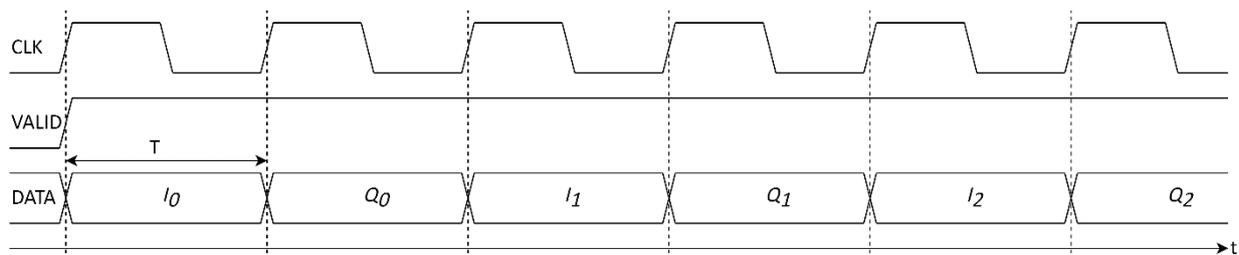

Figure 3: IQ stream input timing for the fast control port (FCP) with clock period $T \in \{2 \text{ ns}, 4 \text{ ns}\}$
- Data at the FCP input must be streamed at 125 MSps or 250 MSps SDR. This is equivalent to the data bits toggling between I and Q every 4 ns/2 ns respectively. Please consult *Figure 3* for a graphical representation.
The phase relationship of input signals to the FCP are depicted in *Figure 3*. See [1] for details on pin assignment at the MDR 36-pin connector.